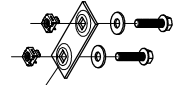

fig.2
- (1) FASTENER PACKAGE
**NOTE: IF YOUR VEHICLE IS NOT EQUIPPED WITH TOW HOOKS, MOUNTING THE BULL BAR WILL REQUIRE USING ADDITIONAL BRACKET KIT #202450 (SEE *fig. 2*).**